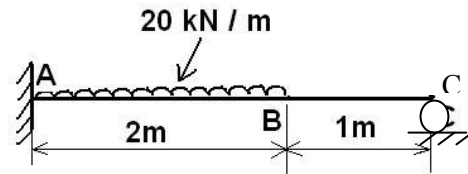

Fig. 4
- (b)** Analyze the beam shown in figure 4 using Castigliano's second theorem. **06**